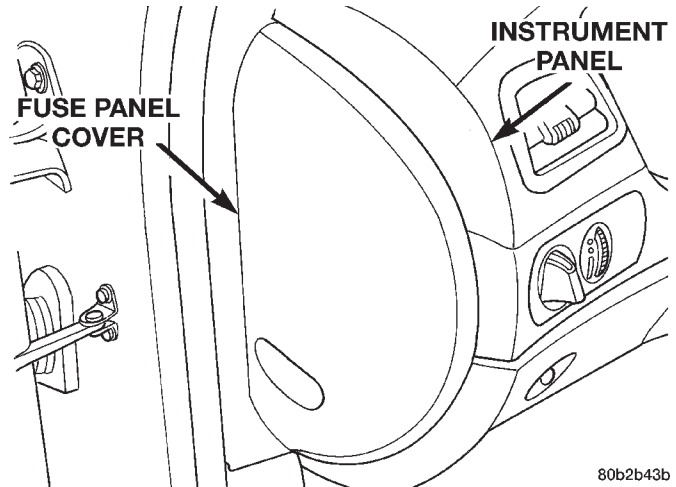

Fig. 62 Fuse Panel Cover
(2) Raise the vehicle using a frame contact type hoist or correctly supported on jackstands. See Hoisting in the Lubrication and Maintenance group of this service manual for the required lifting procedure for this vehicle.
(3) Loosen the park brake tensioner adjuster nut, in front of the rear crossmember, until tension is removed from cables.
(4) Disconnect the cable connector between the front and intermediate cable.
(5) Lower the vehicle to the ground.
(6) Remove the driver's door opening sill cover.
(7) Remove the driver's side kick panel.
(8) Remove the fuse panel cover from the left end of the instrument panel (Fig. 62).